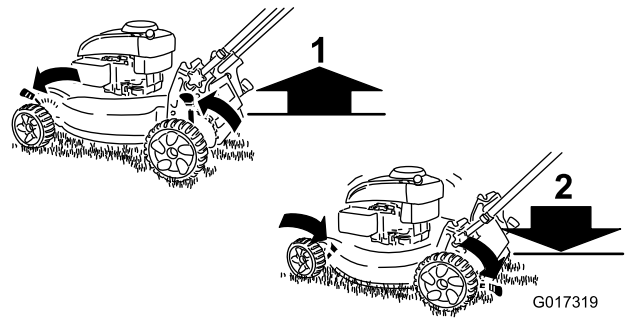

Figure 10
**Note:** To raise the machine, move all the cutting height levers rearward. To lower the machine, move all the cutting height levers forward (Figure 10).